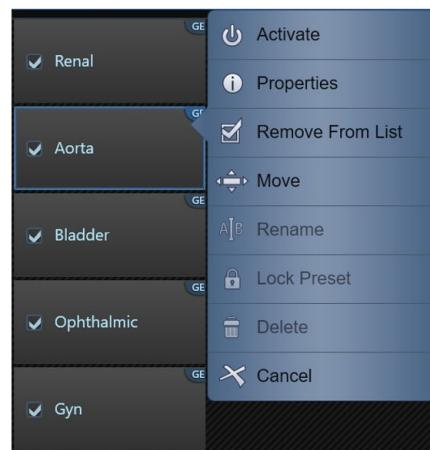

Figure 9-17. Preset config menu
3. Tap an application preset to adjust. The *Preset config* menu is displayed (Figure 9-17).